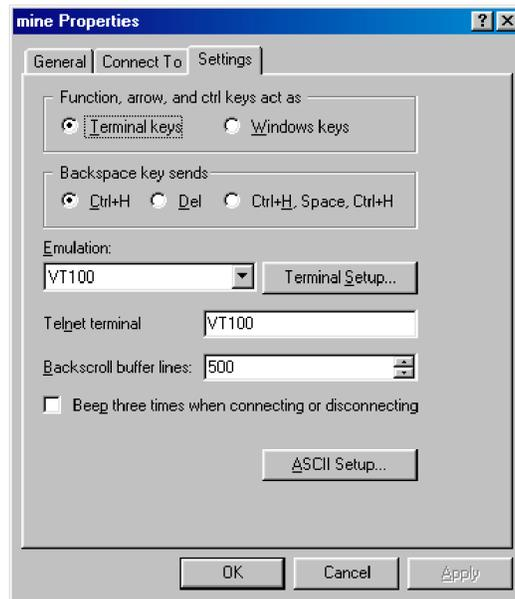

Figure 10. Terminal keys configuration
8. Configure the settings for *Function, arrow and ctrl keys act as to Terminal keys* as shown in figure 10, then click **OK**.